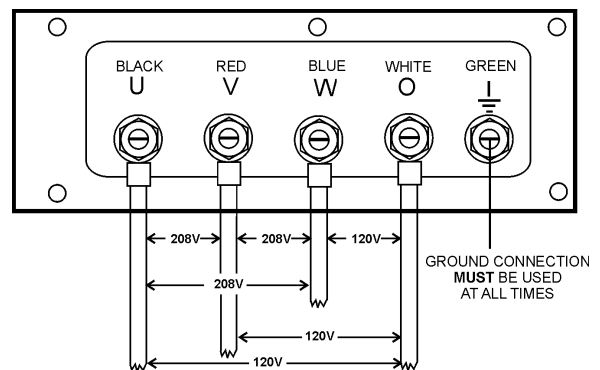

Figure 23. UVWO Terminal Lugs 3Ø-208V/1Ø-120V Connections
2. Connect the load wires to the UVWO terminals as shown in Figure 23.